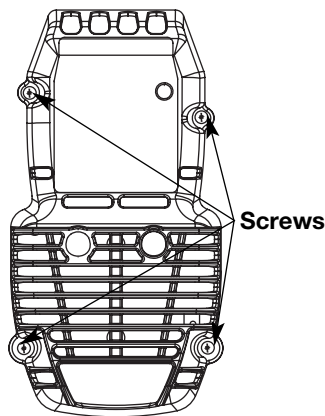

Fig. 14
1. Remove the four (4) screws securing the air filter/muffler cover (Fig. 14). Use a flat blade or T20 Torx bit screwdriver.
9. Reinstall the air filter/muffler cover (Fig. 14).